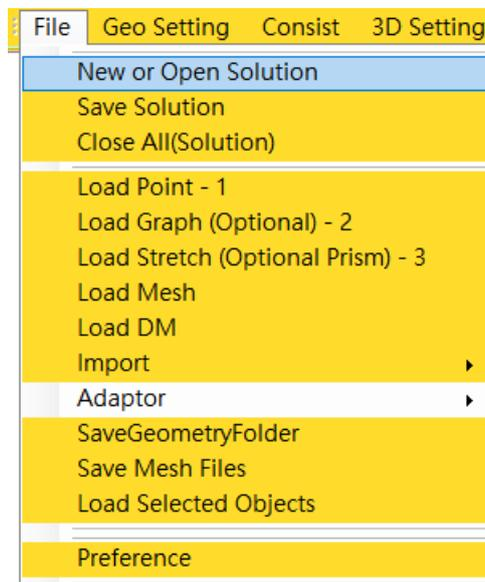

Figure 1.7. File menu.
1. To start a new solution, select 'File' → 'New or Open Solution' as shown in Figure 1.7.